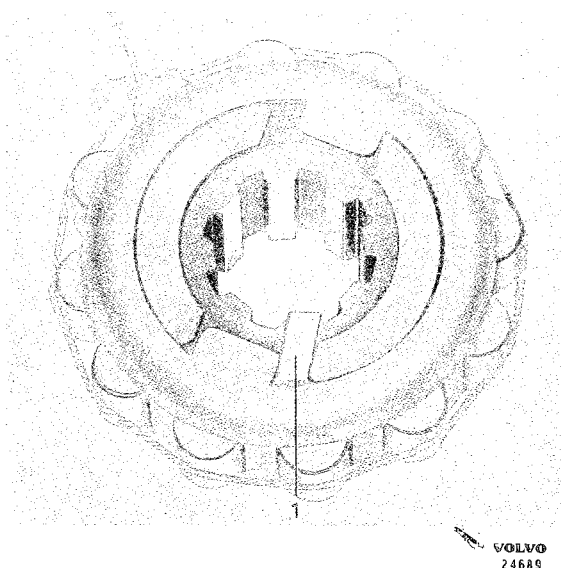
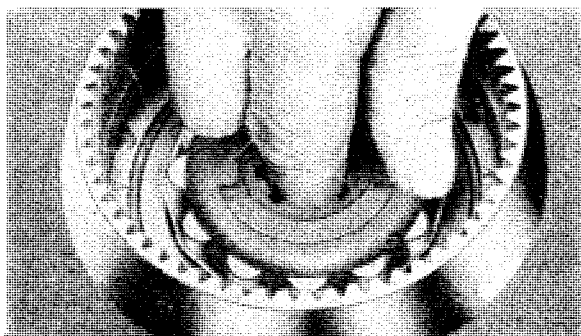

Fig. 4-48. One-way clutch assembly, II
Fig. 4-47. One-way clutch assembly, I
5. Assemble the one-way clutch, spring and roller cage, see Fig. 4-47. Turn the roller cage clockwise as far as it will go and lock it in this position with a key as shown in Fig. 4-48. Place in the rollers. Tie a piece of rubber band or string round the rollers.